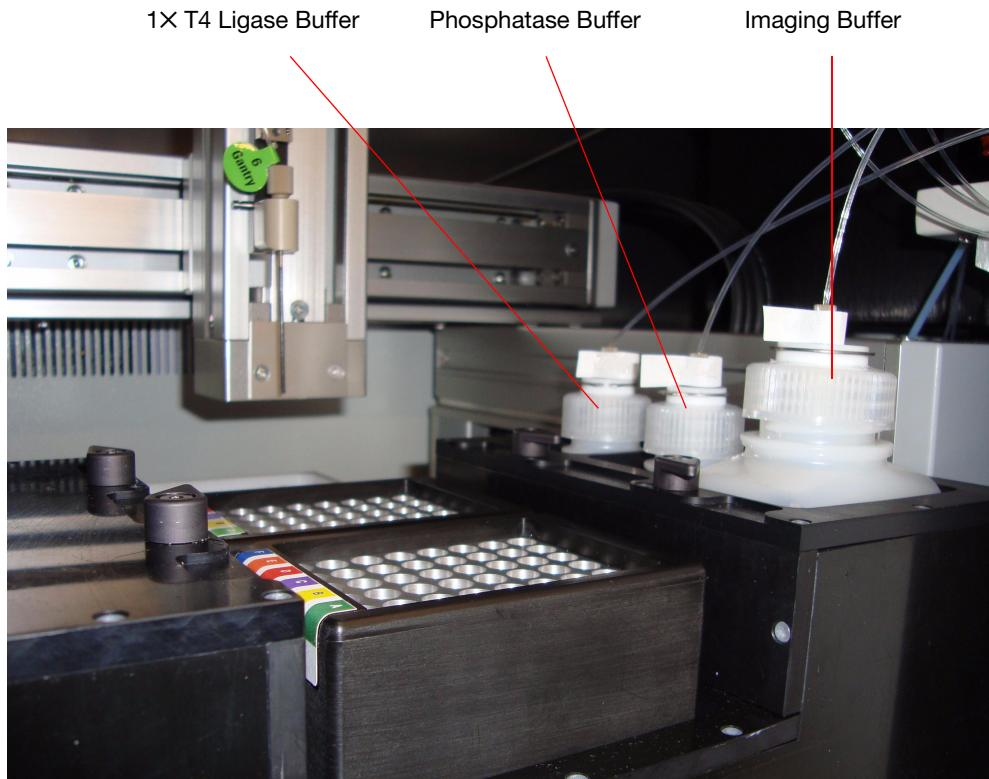

Figure 16 Positions of buffer bottles in the chiller block.
6. Install the prepared Imaging Buffer, prepared 1× T4 Ligase Buffer, and Phosphatase Buffer into the appropriate positions in the chiller block (see Figure 16).